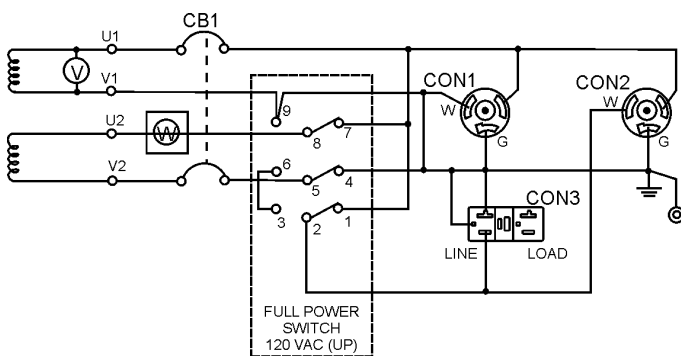

Figure 4C. 120V Full Power Switch Simplified Diagram (Up Position)
12. **Full Power Switch** – The generator is provided with a full power switch. Figures 4C and 4D show simplified wiring diagrams of the dual voltage system.